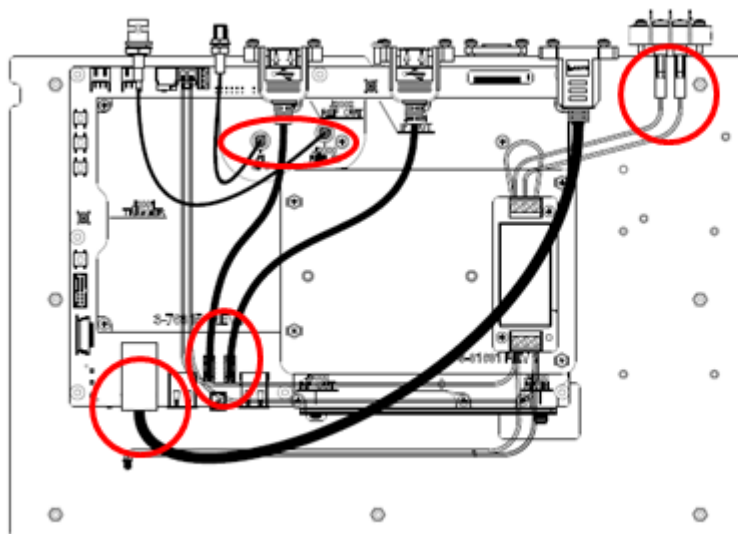

Figure 3-14. Rear Panel Cables
2. Referring to Figure 3-14, remove the GPS, External Reference, 2 USB, 1 or 2 Ethernet, and 48 volt power cables (if installed).